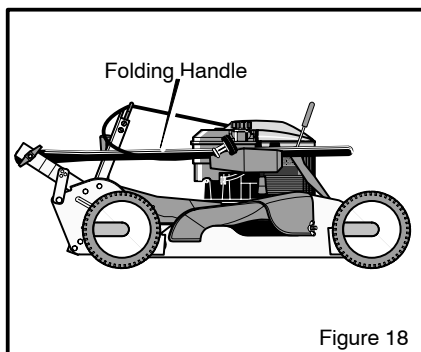

Figure 18
1. Loosen the fasteners that hold the upper part of the handle to the handle supports. As you fold the handle, make sure the cables are not around the loose fasteners and do not become damaged (Figure 18).